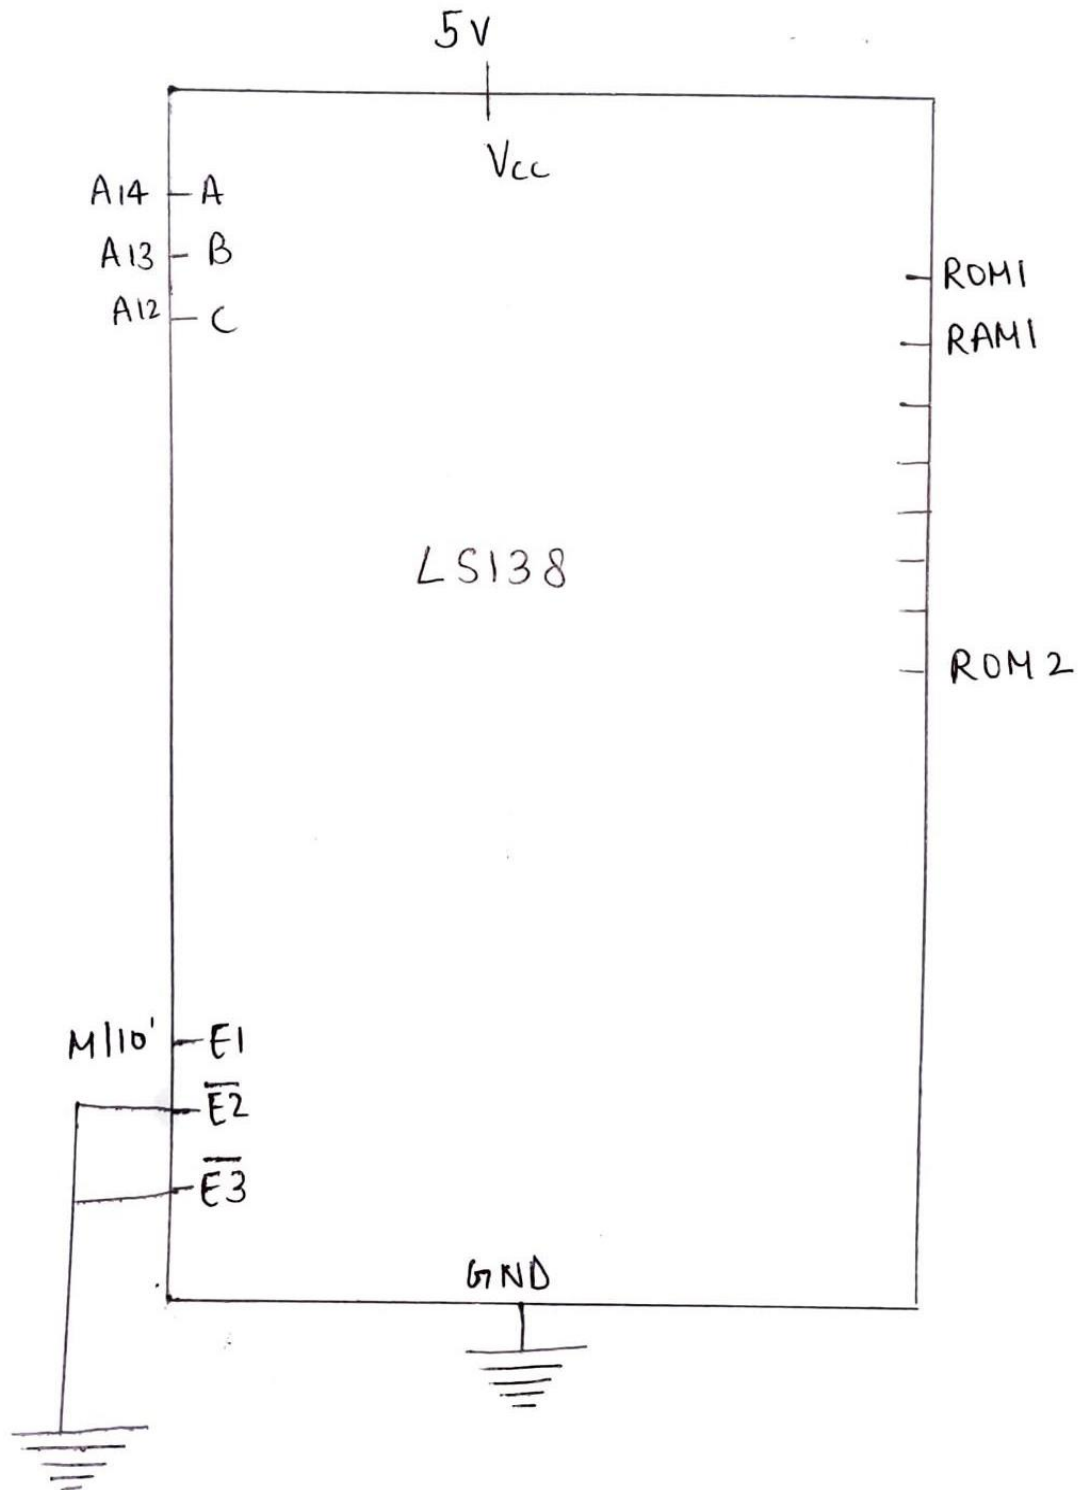

Fig 19.16
7. Memory Decoding Circuit	(Fig 19.16)